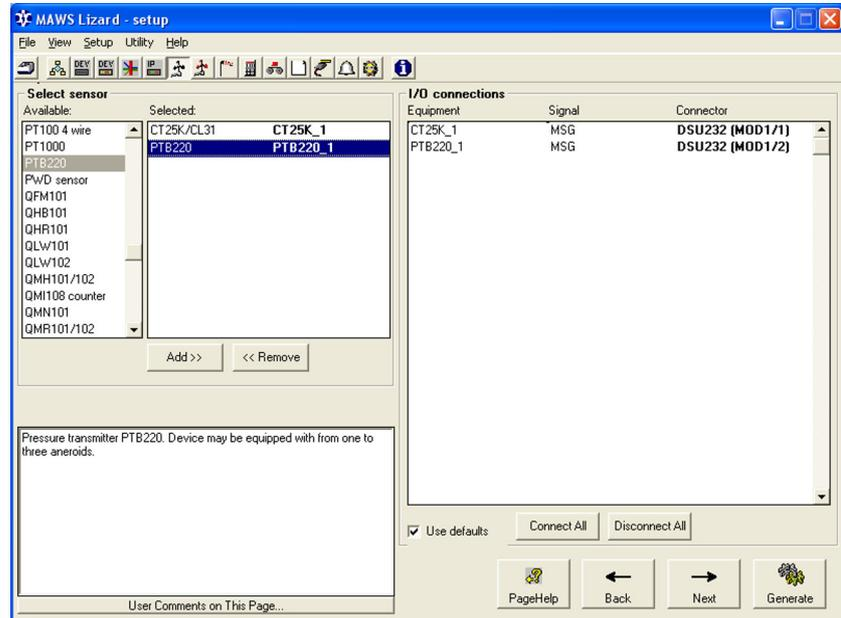

Figure 61 Equipment View: Adding and Connecting Serial Sensor
- Proceed to the **Equipment** or **Additional sensors** view to add and connect the sensor as shown in Figure 61 on page 115.